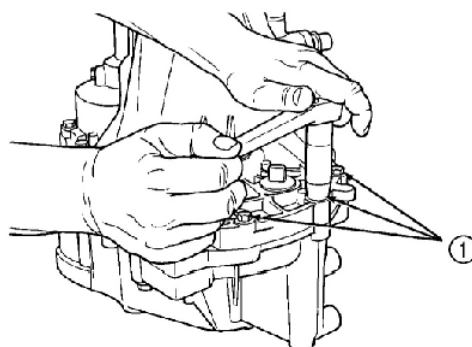

Figure 3-36 Casing bolt
(3) Punch the roller pin and remove the stick.
(4) Screw off transaxle housing bolt (Figure 3-36).